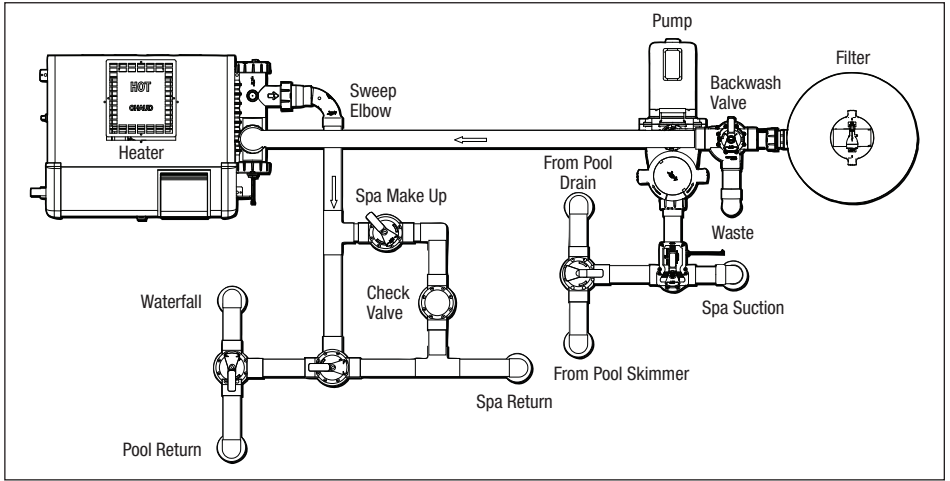

Figure 5. Sand Filter Plumbing for Pool/Spa Combination
7. Place the filter on the concrete pad, lined up with the inlet/outlet pipes. See Figure 5.
- c. Be sure there is sufficient distance between the center of the pump outlet port and the backwash valve inlet port to accommodate the sweep elbow(s). See Figure 5 for recommended installation configuration.